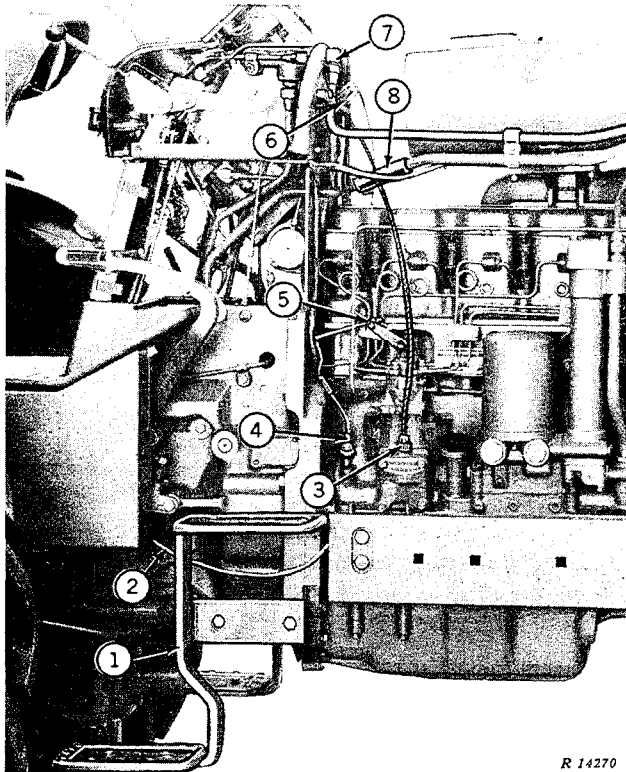

Fig. 4—Separation Procedures on Right-Hand Side
1. Remove right-hand step (Fig. 4).